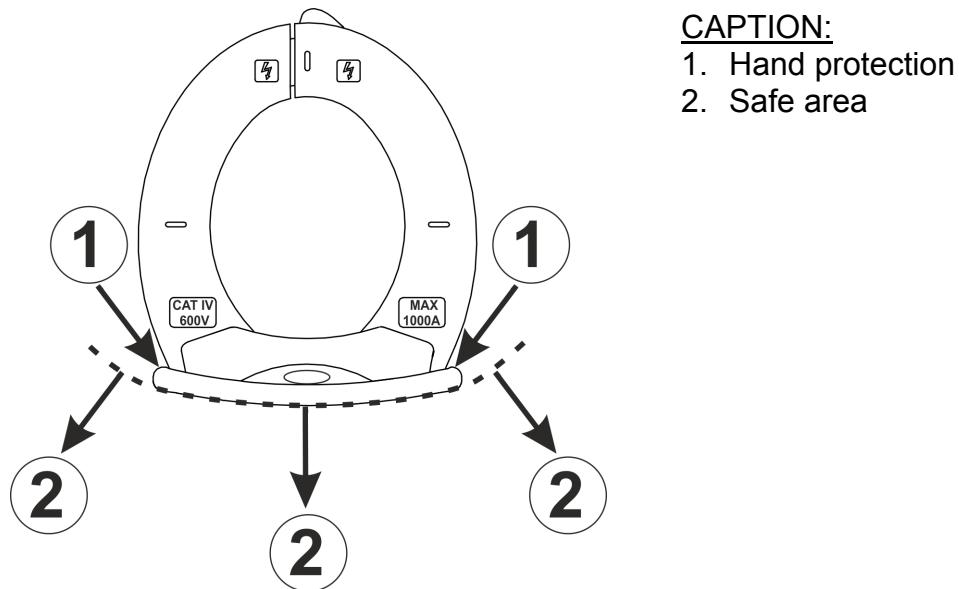

Fig. 3: hand protection
- Keep your hands always under the hand protection. This protection is always located in a suitable position to guarantee a correct safety distance from possible exposed or live parts (see Fig. 3)
Always keep your hands under the hand protection. This protection is always located in a suitable position to guarantee a correct safety distance from possible exposed or live parts (see Fig. 3)